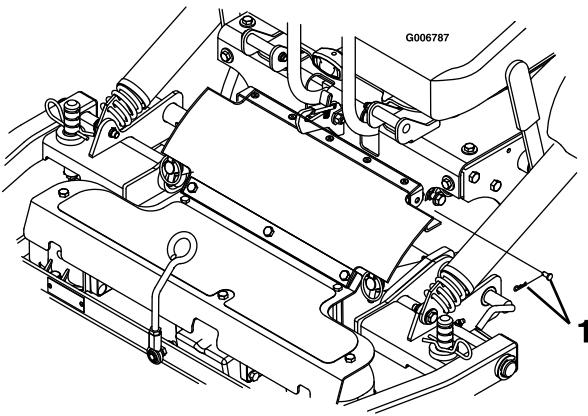

Figure 11
3. Remove the hairpin coppers and clevis pins from both sides of the PTO guard (Figure 11).